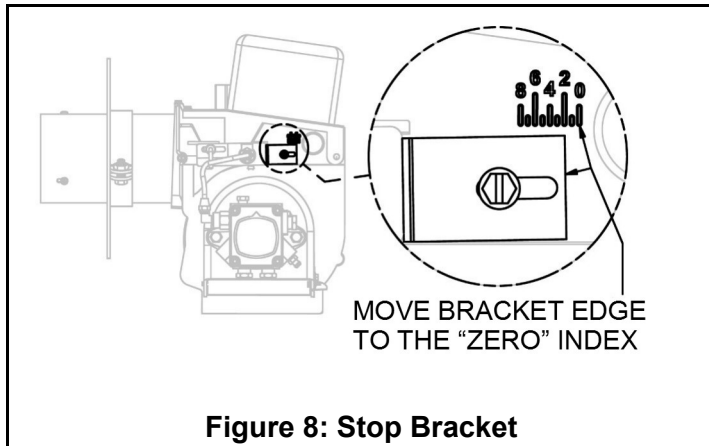

Figure 8: Stop Bracket
1. Loosen the stop bracket, pull it back to the zero position, and re-tighten the bracket as indicated in Figure 8.